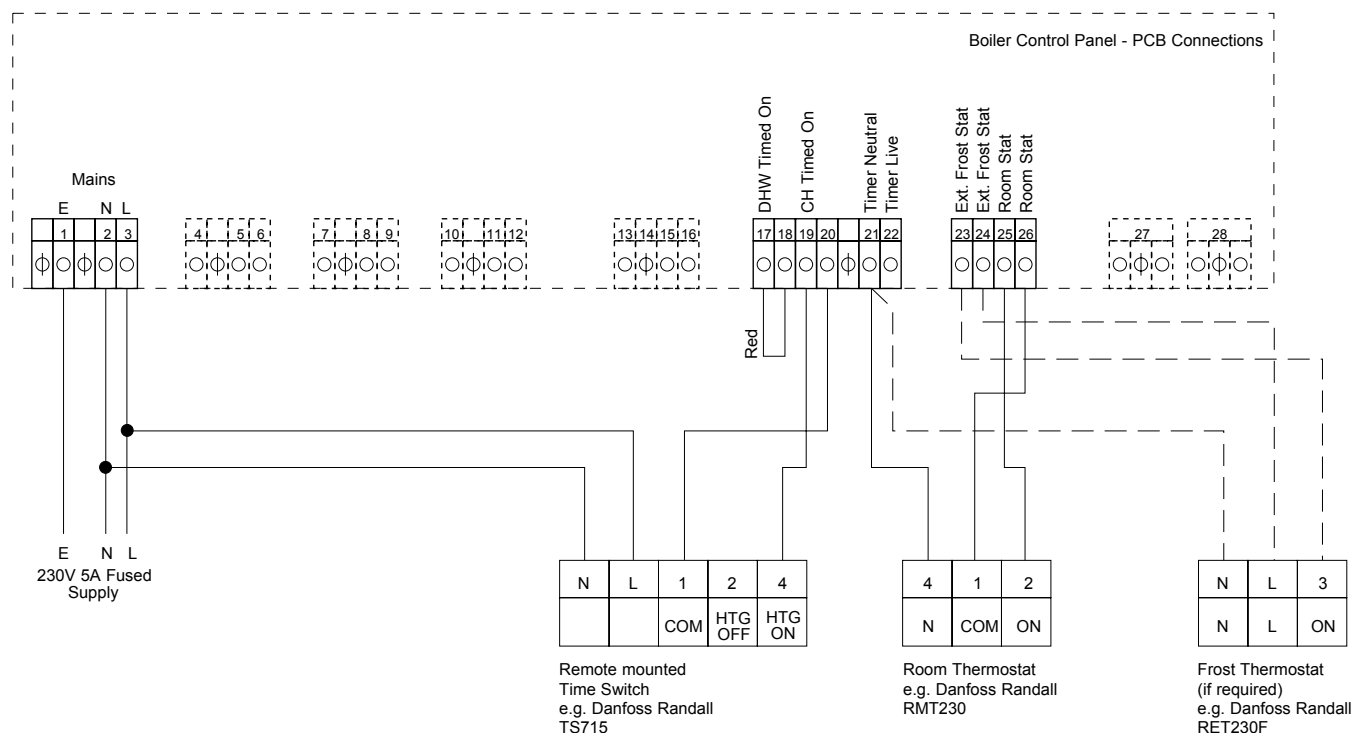

Figure 8-3: Connections for a remote timer and room thermostat
2. Remove the Orange room thermostat link wire from terminals 25 & 26 on the connection block and connect the wires from the room thermostat. Refer to Figure 8-3 for further details
6. Connect the live, neutral (and earth if required) from the timer to terminals 3, 2 & 1 respectively on the boiler terminal block. Refer to Figure 8-3 for further details.
1. Connect the wires from the frost thermostat to terminals 23 & 24 on the connection block. Refer to Figure 8-3 for further details.